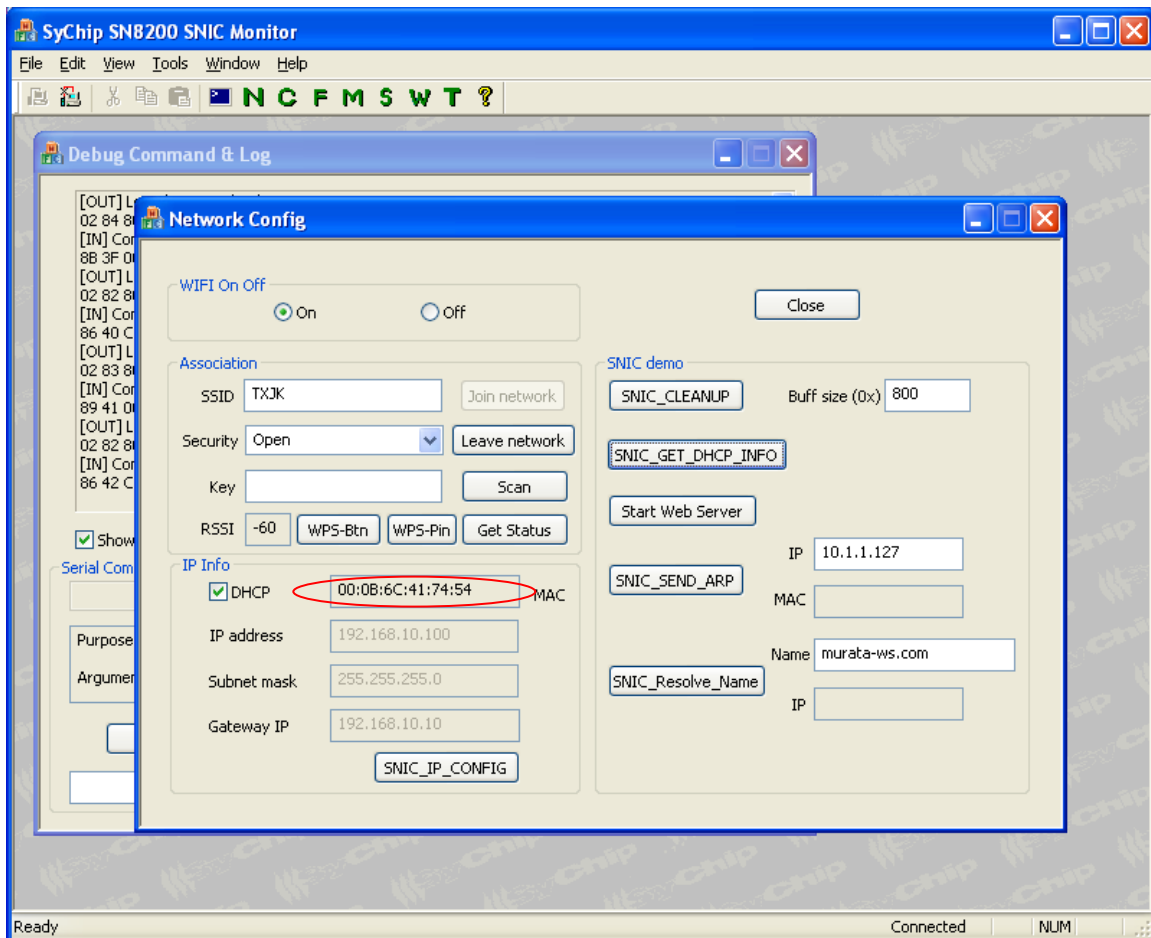
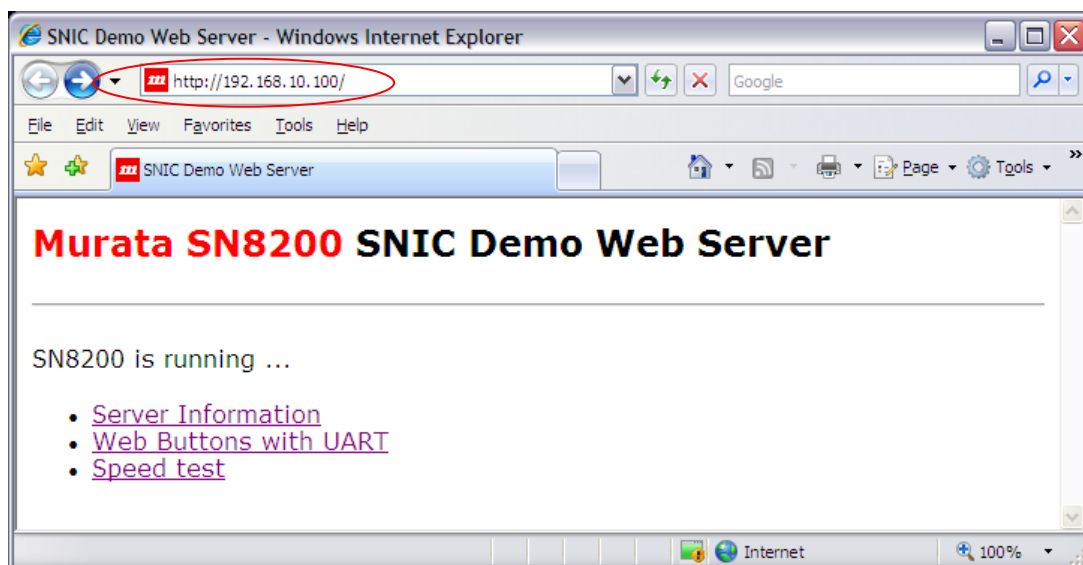

Figure 10 Display after Web server demo has been started.
Figure 11 Main page displayed in web browser of the demo
6. On web browser, key in the IP address shown in the “IP address” field in “Network Config” window, as illustrated in Figure 10 and Figure 11.